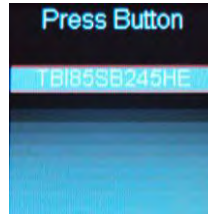

Figure 13
14. Press the button again when asked to do so (Fig 13).